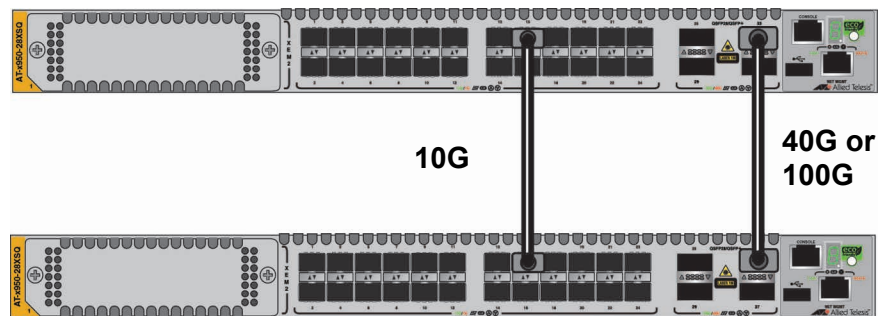

Figure 44. Unsupported Trunk with Different Port Speeds
- ❑ Trunk links must be the same speed. The example in Figure 44 is unsupported because the links are different speeds.